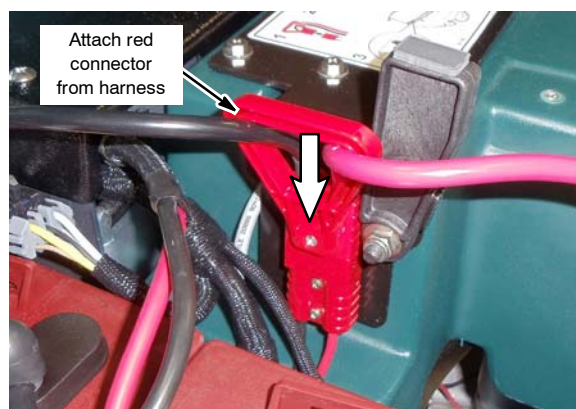

Fig. 16
2. Rotate support stand upward and attach the battery connector harness to the battery charger connector (Figure 16).